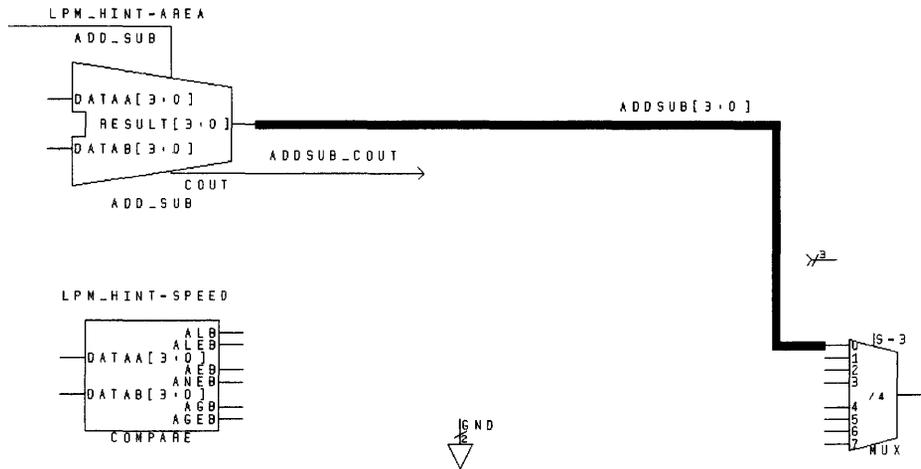

Figure 3-52 Connecting the mux to the comparator
- => Since you're using 4-bit buses, you'll need to use two bus connections in order to have all six of the comparator outputs available for selection by the mux. Beginning at input 1 of the mux, draw a bus in an L shape (see the zoomed-in view of the schematic in Figure 3-52) and terminate it at an end point by pressing the middle mouse button and then the right mouse button, or by pressing "F3" and then the right mouse button. Repeat this free-floating connection beginning at input 2 of the mux and ending, in an L shape, near the comparators' outputs. Click on a blank area of the schematic to deselect everything already selected. You again need to label the two buses you just drew. Clicking on a piece of the bus connected to mux input 1, press "1" on the keyboard, or choose *Label* from the *Add* pull-down menu, and type in **magb [3 : 0]**. Again, click on a blank area of the schematic to deselect everything already selected. Clicking on a piece of the bus connected to mux input 2, press "1" on the keyboard, or choose *Label* from the *Add* pull-down menu, and type in **maga [3 : 0]**.